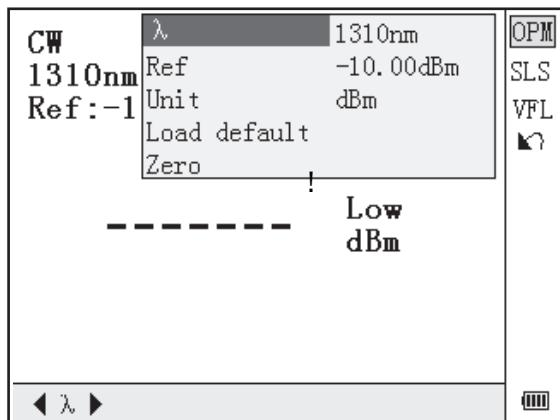

Figure 4-11. OPM Measurement Setting
- Use ◀ and ▶ to toggle between calibrated wavelengths. Press Enter to enter OPM measurement setting interface (Figure 4-11)